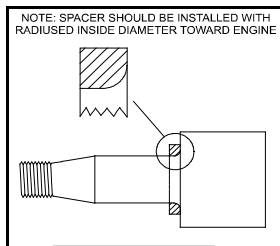

Figure 1
1. Install Spacer (Item No. 1) onto crankshaft. Be sure the radius side of the spacer faces toward the engine. (See Fig. 1)